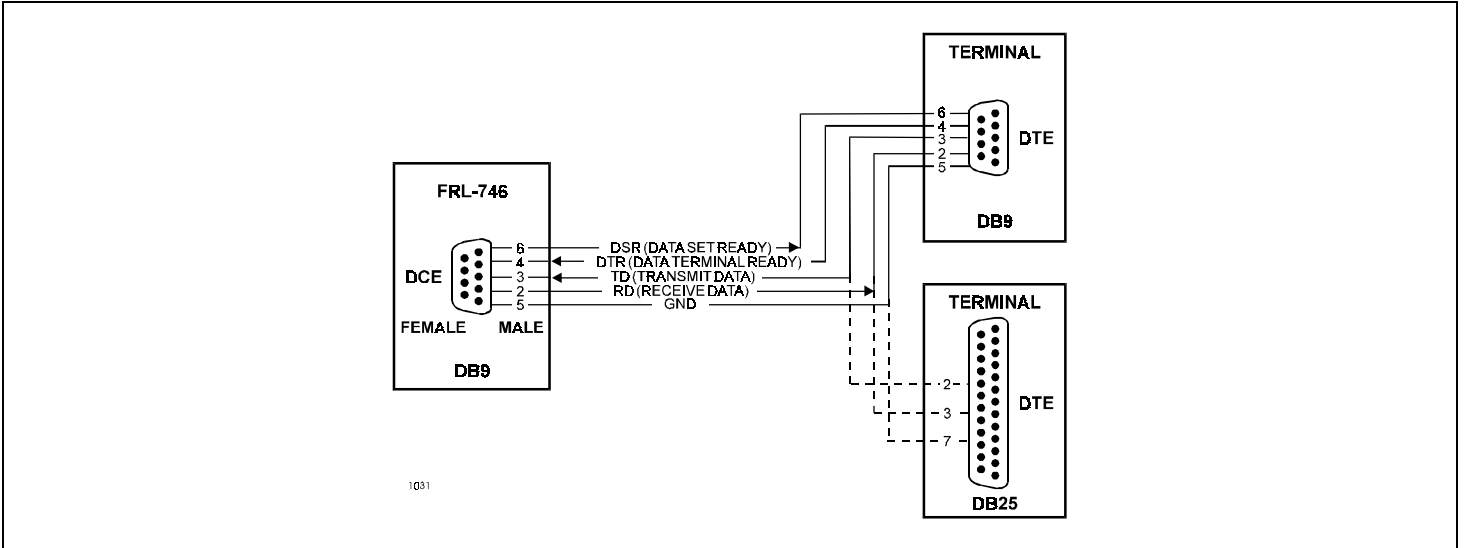

Figure 4. FRL-746 DB-9 Pin Outs. A standard RS-232 (DB-9) connector on the front panel provides access to the menu interface feature via an ASCII terminal.
8.01 The terminal management function at the remote terminal enables a technician to monitor the entire PG-Flex system through an ASCII terminal (or equivalent) connected to the maintenance port. The pin-outs for the standard RS-232 (DB-9) maintenance port connector are shown in Figure 4. With the management function, the technician can view status, configuration, performance, and inventory information.